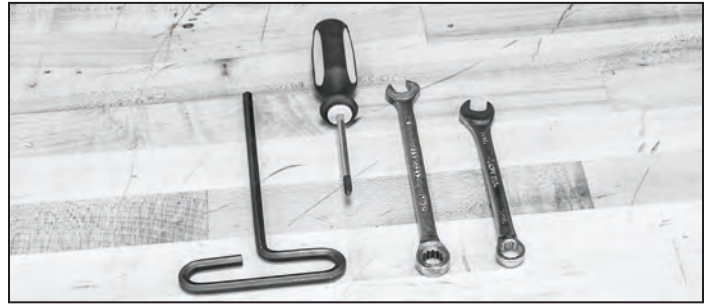

Fig. 1
1. (Fig. 1) Start by assembling the three pieces of the handlebar using the 5/16-18 x 1½ inch hex bolts and nylon lock nuts.
1. (Fig. 1) Remove the bin and gently turn the Nut Rake frame upside down.